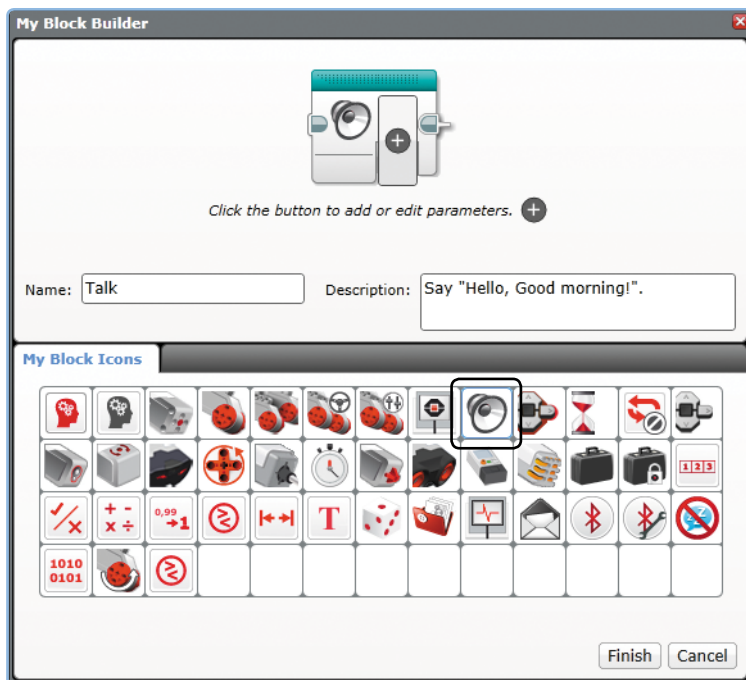

Figure 5-10: The My Block Builder. Choose a name, a description, and an icon for your My Block. Then click **Finish** to complete your block.
2. The My Block builder now appears, as shown in Figure 5-10. Enter a name for your My Block, such as **Talk**, in the *Name* box. Use the *Description* area to describe your block so that you'll remember what it does if you want to reuse it later. Finally, choose an icon, such as the speaker, to help you remember that this My Block is used to make sounds. Click **Finish**.